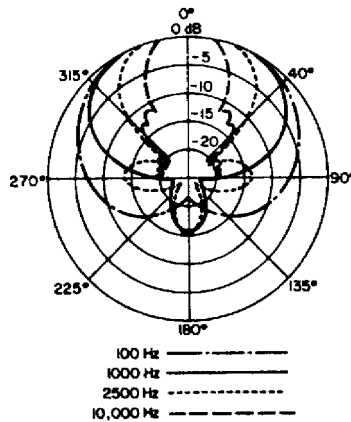

Figure 3-11. Polar response pattern for Electro-Voice Model 642
e. The magnitude of the interference will depend on the angle between the plain wave and the axis of the tube. The directivity of a line microphone is a function of frequency; the lower the frequency, the broader the polar pattern (fig 3-11).